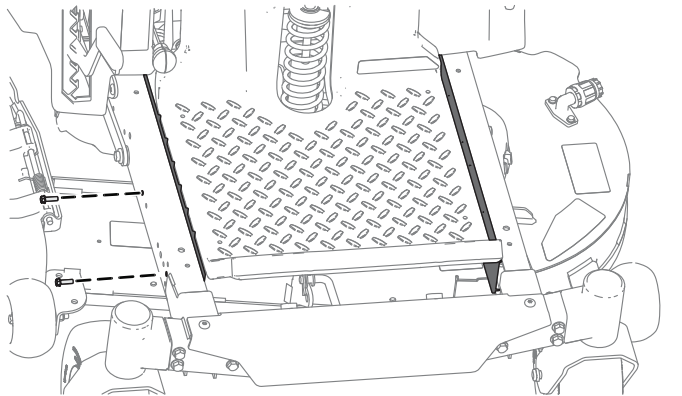

Figure 1
2. Remove the guards on both sides of the frame (Figure 1).
2. Secure the guards to the frame using the bolts removed in 2 Removing the Guards \(page 2\) as shown in Figure 1.